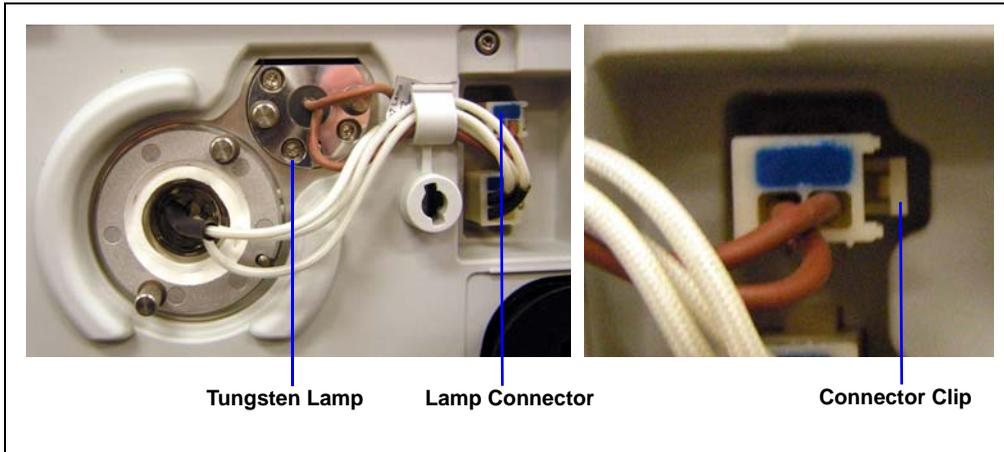

Figure 5-5. Tungsten Lamp, Connector, and Clip
6. Squeeze the clip on the tungsten lamp connector (see Figure 5-5) and pull out the connector from its source.